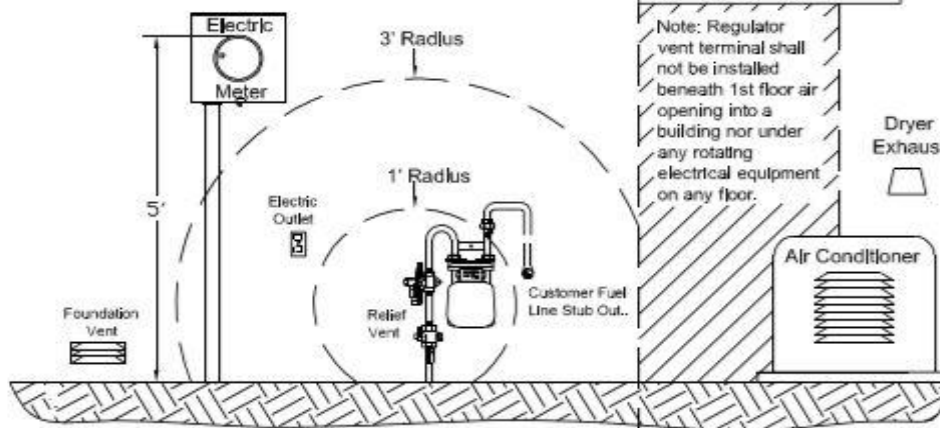

Figure 1 See NIPSCO Gas Standard GS 6500.105(IN) for detailed gas meter requirements.
- 1.2 A minimum clearance of three (3) feet shall exist between the electric metering equipment enclosure (considered a source of ignition) and all gas metering and regulating equipment. The 3 foot clearance shall apply in all directions. (See figure 1)